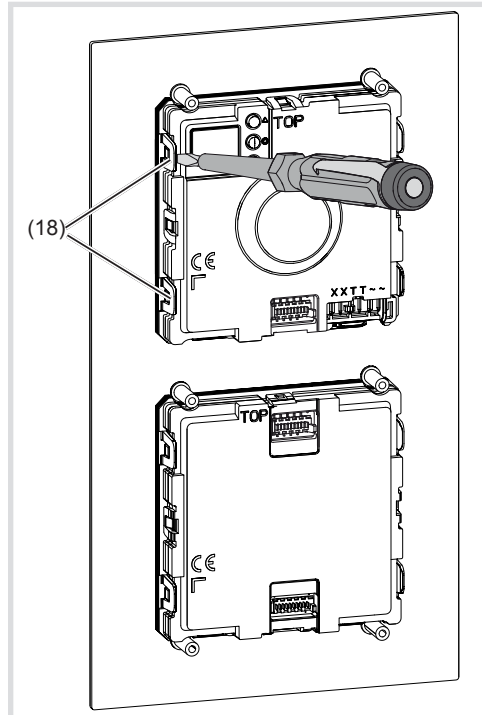

Figure 17: Unlatching module
- Pull off connection terminal block (13) on the device.
- To remove the call push-button module, unlatch the side retaining brackets (18) of the module mounting by carefully lifting up with a screwdriver (Figure 17).